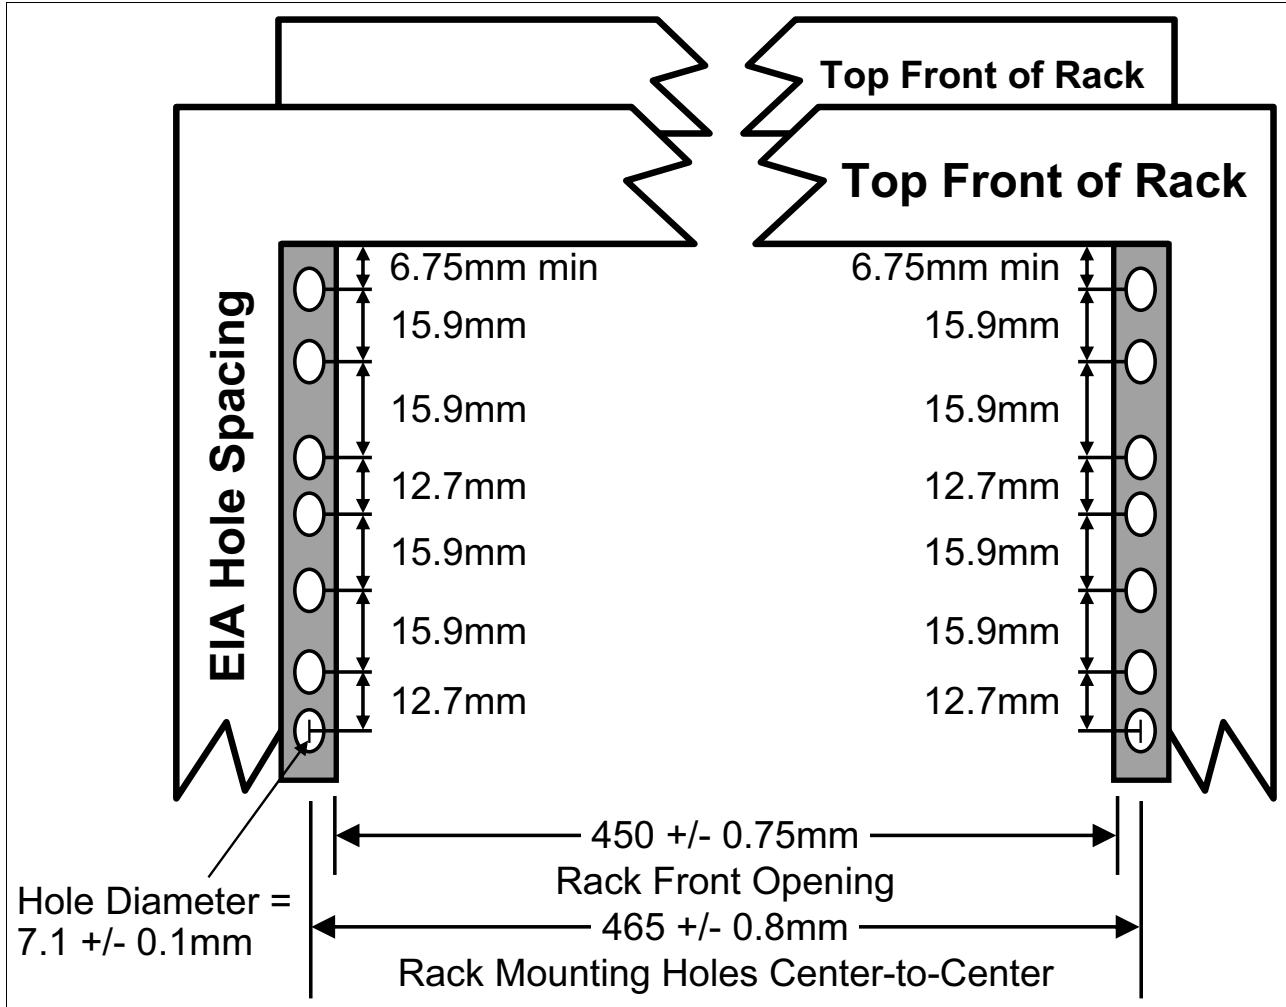

Figure A-4 Rack specification dimensions top front view
- ▶ The vertical distance between the mounting holes must consist of sets of three holes spaced (from bottom to top) 15.9 mm (0.625 in.), 15.9 mm (0.625 in.), and 12.67 mm (0.5 in.) on-center, which makes each three-hole set of vertical hole spacing 44.45 mm (1.75 in.) apart on center. Rail-mounting holes must be 7.1 mm ± 0.1 mm (0.28 in. ± 0.004 in.) in diameter. Figure A-4 shows the top front specification dimensions.